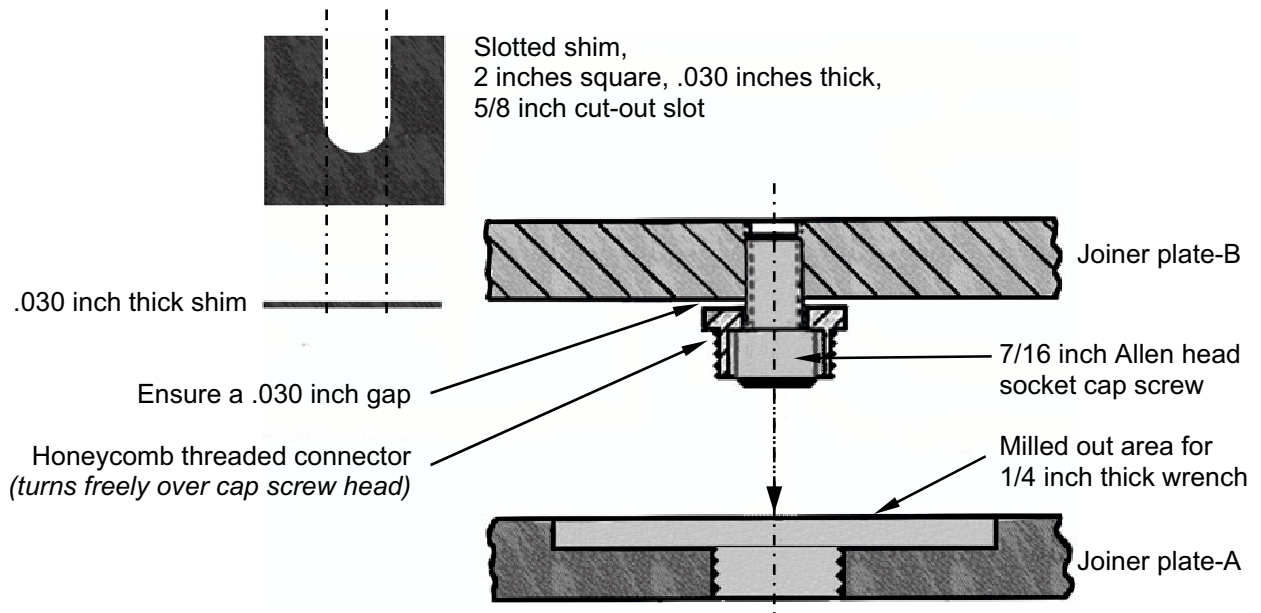

Figure 5 *Honeycomb Connectors*
**Note** Once you have verified that all honeycomb connectors are free to turn, it is recommended that you use the supplied **0.030 inch** shim tool and wrench referenced in figure 5 & 6 below to start the first thread of each honeycomb connector. Using the shim will insure that all connectors start straight.